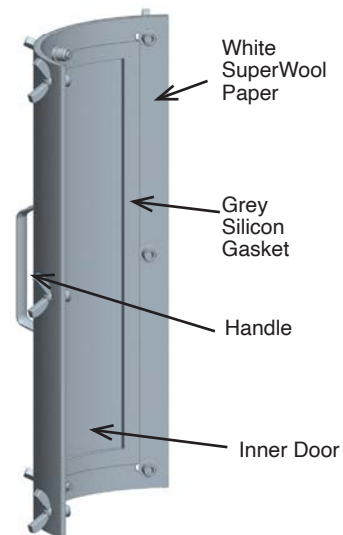

Figure 88: Step 6 of Removal for Inspection for the ADL
- 6- Inspect the ceramic gasket (white) and the silicone gasket (gray) attached on the inside of the inner door for any damage (see Figure 88). If any damages, you must replace one or both gaskets. See Figure 88